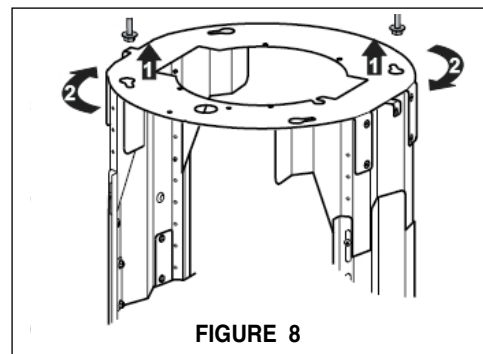

FIGURE 8
2. Lift the frame to the ceiling, fit the frame slots onto the two screws inserted in the ceiling. Turn the frame to reach the center of the key hole (**FIGURE 8**)